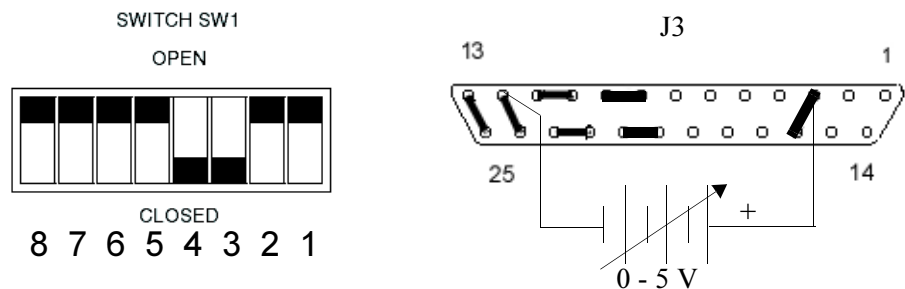
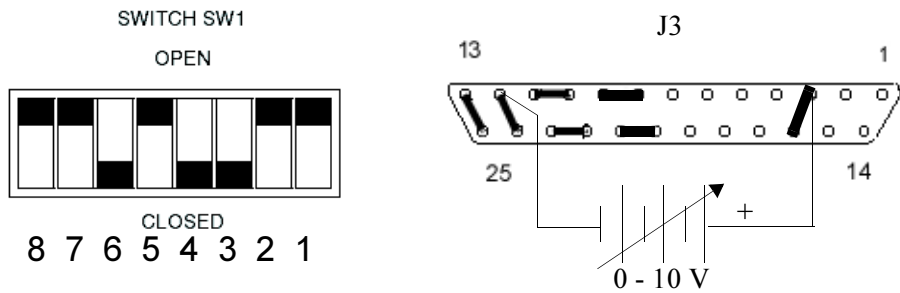

Figure 3.13 Remote Programming of OVP
Figure 3.14 Remote Programming of OVP
1. Ensure the power supply is turned OFF and that both the AC power source and the load are disconnected. Allow five (5) minutes to elapse to dissipate stored energy before resetting switches or making connections. Refer to “Configuring for Remote Programming, Sensing, and Monitoring” on page 48 for instructions for removing the cover and resetting switches or making J3 connections.
2. Set the power supply's internal switch SW1-7 OPEN. Ensure switch SW1-6 is set to OPEN for 0-5Vdc OVP programming (factory default setting) or set it to CLOSED for 0-10Vdc OVP programming. See Figure 3.13 and Figure 3.14.
3. Connect the external voltage source between pin 3 (positive) and pin 12 (return) on the J3 connector on the rear panel. See Figure 3.13 and Figure 3.14. The use of shielded-twisted pair wiring is recommended. Ground the shield to J3 connector pin 6 or to the chassis using one of the J3 connector screws.